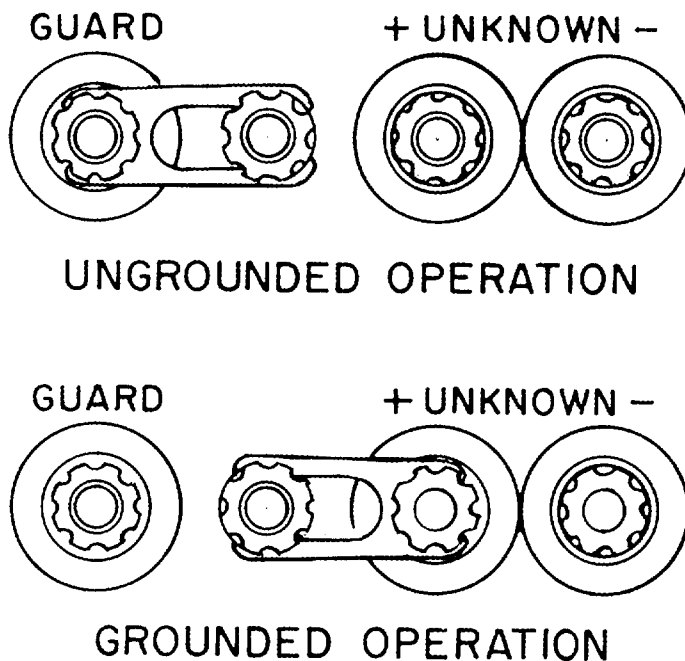

Figure 2-1. The ground link connected to the GUARD terminal (top) and to the + UNKNOWN terminal (bottom).
2.3.1 CONNECTION OF GROUND LINK. The grounding link connected to the uninsulated, grounded binding post, may be connected from this ground terminal GUARD or the + UNKNOWN terminal (see Figure 2-1). The ground link should be connected to the GUARD terminal if the sample to be measured is a small, separate component or if it is a component mounted in an enclosure that should be guarded (refer to paragraph 3.5). However, if one terminal of the unknown must be grounded, then the link should tie the + UNKNOWN terminal to the instrument case.